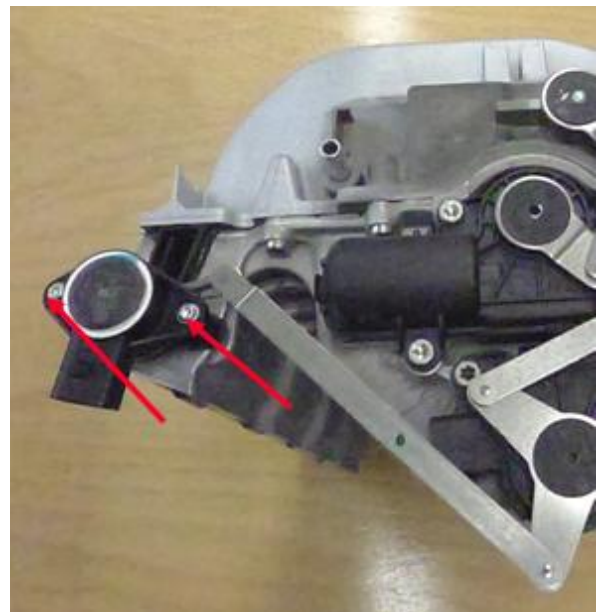

Figure 4. Two M4x14 bolts to be removed.
3. Remove the potentiometer by removing the two M4x14 bolts (Figure 4), then check the potentiometer and its flange for damage.